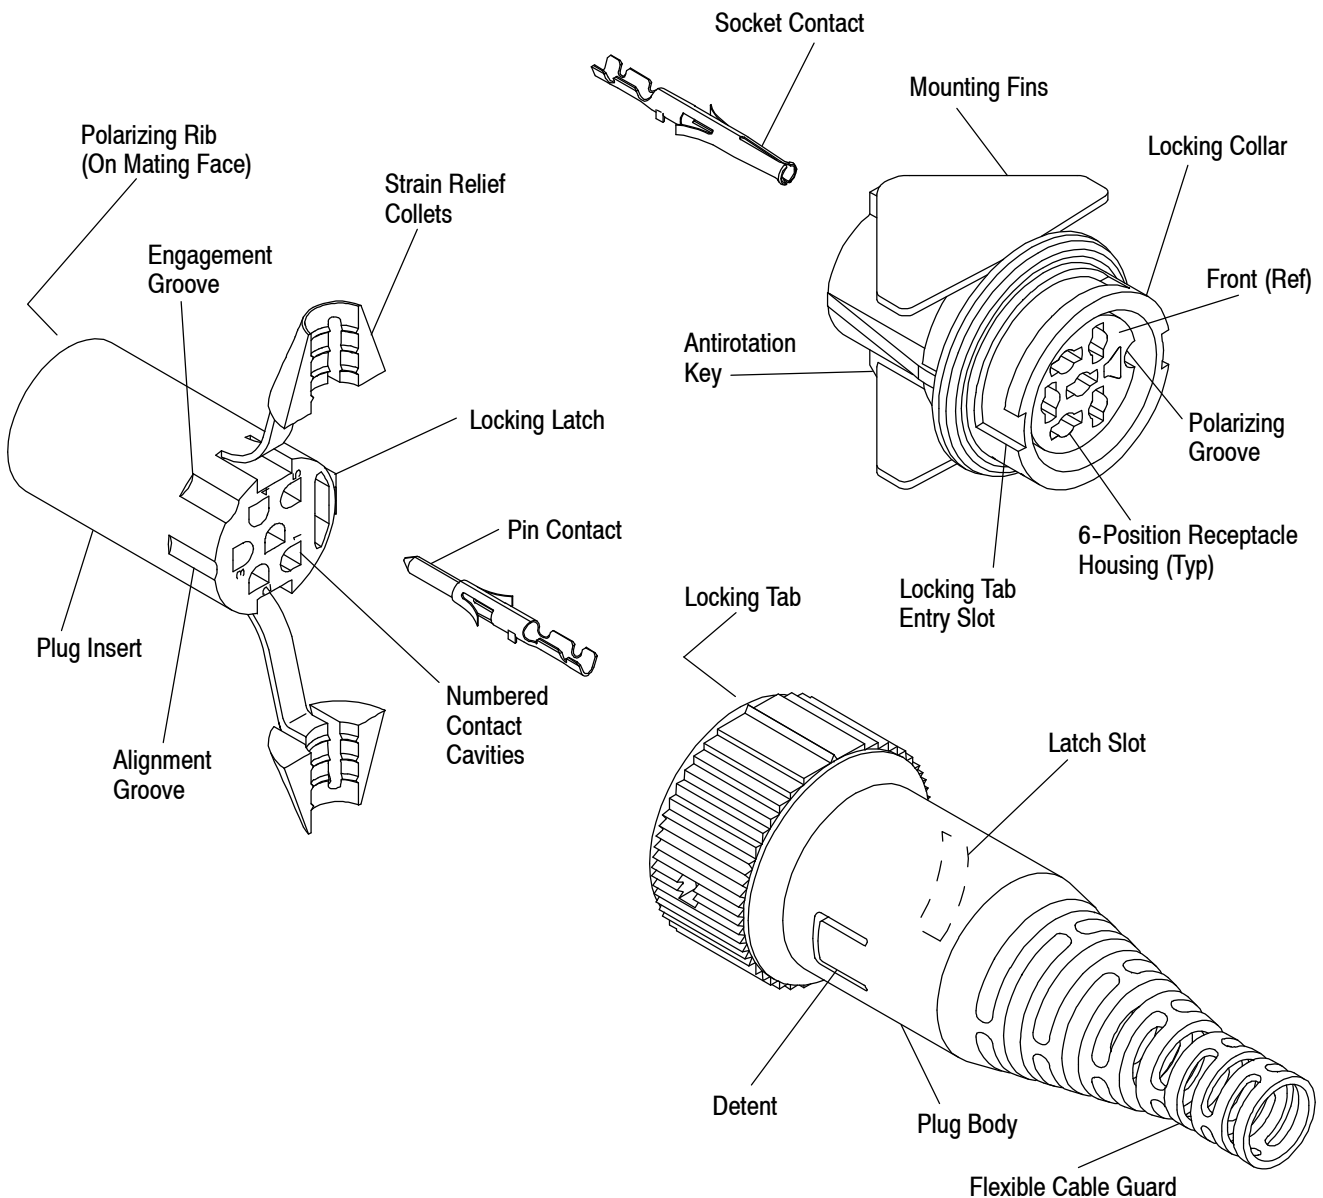

Figure 1
*When corresponding with TE Personnel, use the terminology provided on this specification to help facilitate your inquiry for information. Basic terms and features of components are provided in Figure 1.
Each receptacle has a polarizing groove and each plug insert has a polarizing rib to ensure proper mating. Contact cavities are numbered on the BACK of each connector to provide circuit identification. See Figure 1.